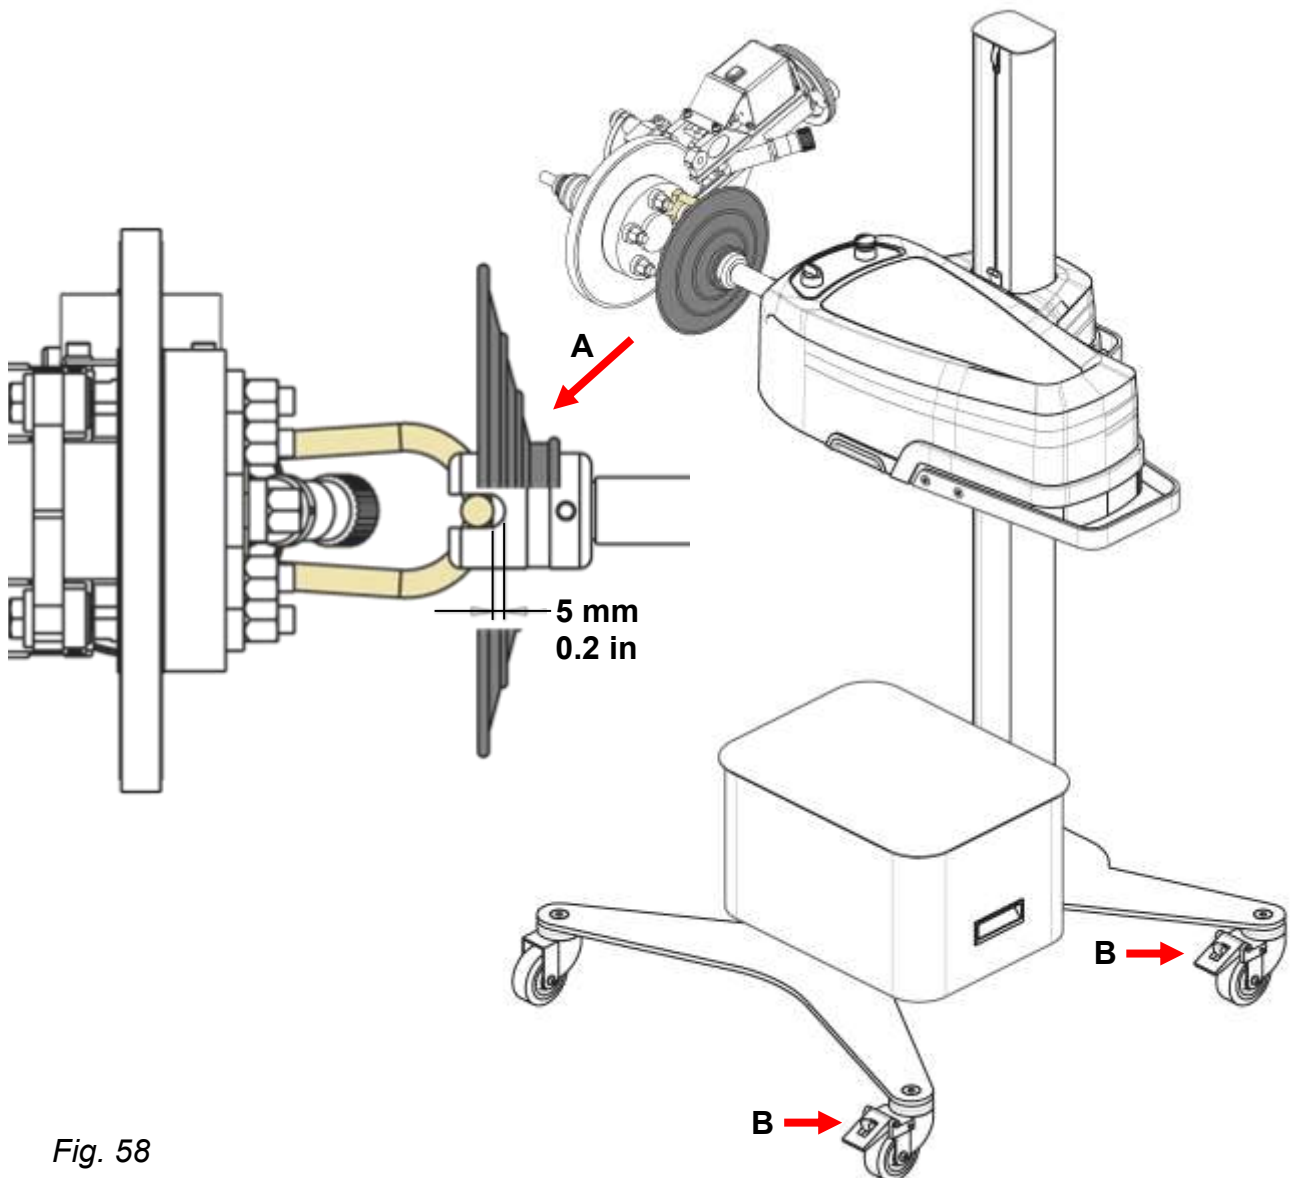

Fig. 58
4. Slide the drive yoke onto the drive adapter, leaving a 5 mm (0.2 inch) space, Fig. 58(A). Drive yoke must align with the center of the hub.
5. Lock the caster wheels to lock the stand in place, Fig. 58(B).